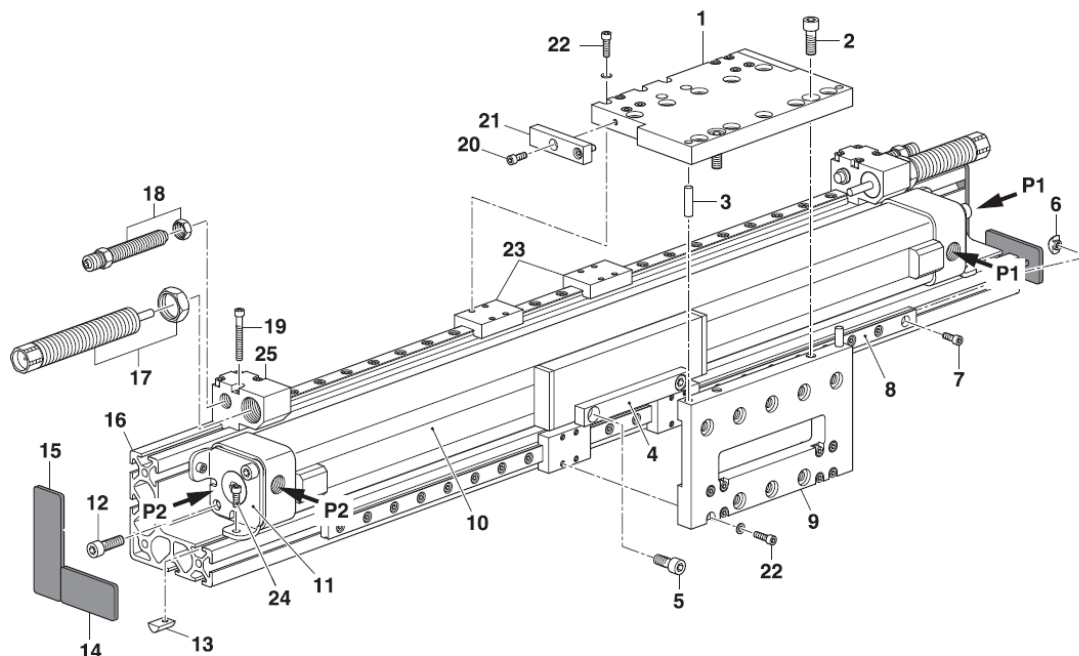

Fig. 12 Structure PMP-c version 01
The pneumatic cylinder (Fig. 12, 10) is actuated via the compressed air connections (P1 and P2). The cylinder moves the carriage (Fig. 12, 1 and 9) mounted on four recirculating ball guides (Fig. 12, 23). The stroke is limited by the two stop screws (18) and is slowed down by the two shock absorbers (Fig. 12, 17).